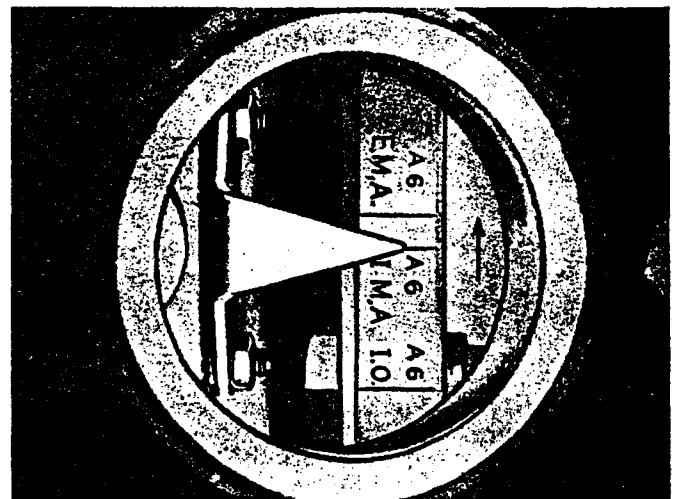

Figure 1 - Timing Flange
(1) Rotate crankshaft in the direction of normal operation until the "A6" piston is traveling upward on the compression stroke, stopping when the stamped marking "A6IMA" (or the 45-degree mark which is stamped on later models) on the crankshaft flange is in register with the pointer as observed through the inspection plug hole located at propeller end of lower crankcase. (See figure 1.)
(5) Tighten mounting stud nuts. Check timing of both magnetos for synchronization by turning engine crankshaft backwards about one-fourth of a revolution, then turn crankshaft slowly in direction of normal rotation until breaker points of both magnetos are just opening as determined by timing light or feeler gage. Observe timing mark at crankcase inspection port and if mark is in register with pointer or within 1/16 inch either way of being in register, the timing is correct, if not, remove magneto and retime to the above procedure until desired timing is obtained. (See figure 1.)